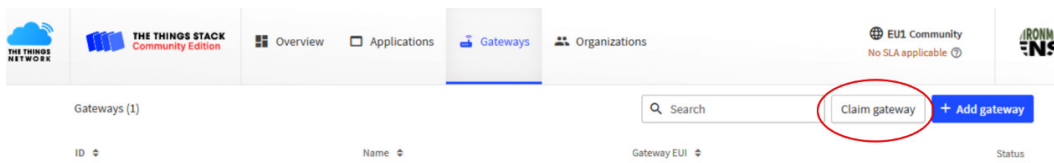

Figure 4.3 – Claiming a gateway on TTN
2. Once you have your account with TTN set up, go to the console and choose **Gateways**, as shown in *Figure 4.3*. We have chosen the EU region in our case, so our gateway URL will be <https://eu1.cloud.thethings.network/console/gateways>. You will find that the TTN setup with this particular gateway is a little different. This specific gateway is built and sold to be used with the TTN network, so much of the configuration is already defined within the system. With third-party commercial gateways, you would normally add a new gateway to the system, but since this gateway is already defined by TTN, you need to claim it, instead of adding it as a new one: